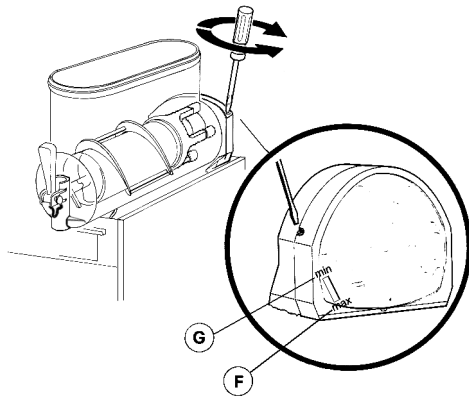

figure 3
With reference to figure 3 dispenser controls functions are as follows:
- 1 Granita viscosity adjustment:** proper Granita viscosity is factory preset. To change the viscosity, if needed, use a standard screwdriver to turn the adjustment screw located in the rear wall of each container as follows (see figure 3):